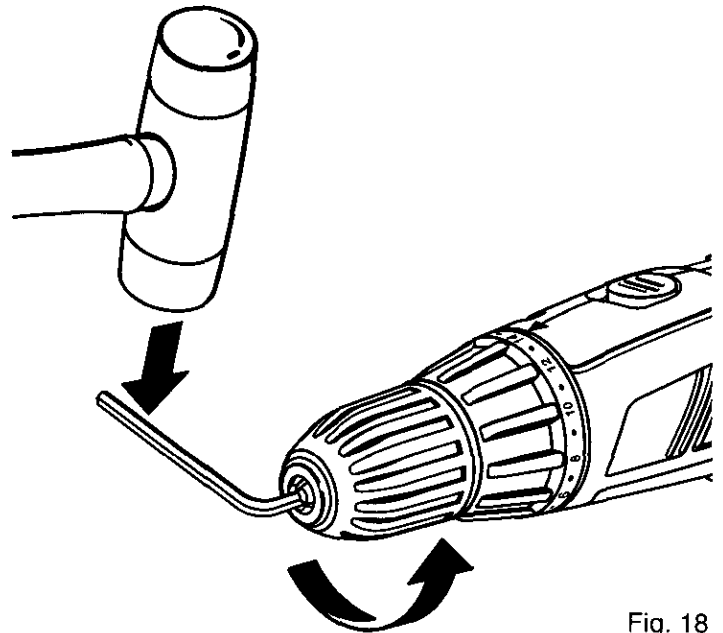

Fig. 18
- Insert allen wrench in chuck and tighten chuck jaws securely. Tap sharply with a mallet in a counterclockwise direction. This will loosen chuck on the spindle. It can now be unscrewed by hand. See Figure 18.